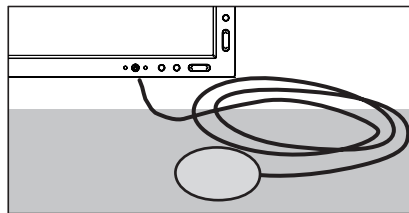

Figure C.3
4. The calibration menu will open and the USB sensor will begin to initialize. If the DARK-MEASUREMENT message is displayed, place the USB sensor face down on a non-reflective, opaque surface (i.e. desk or a mouse pad) to measure the black level (Figure C.3) and press "SELECT".